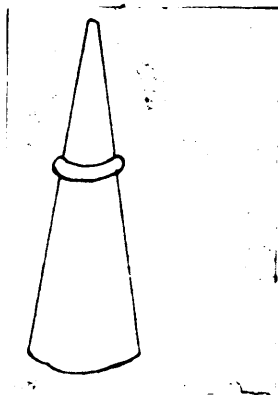
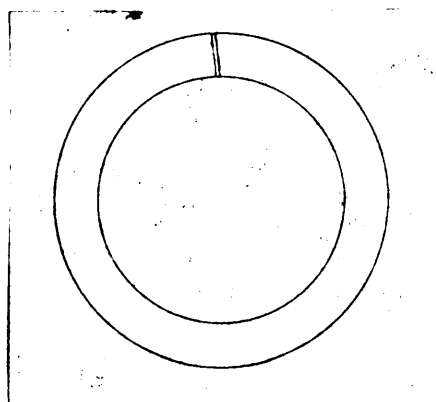

Figure 7.
Figure 8.
6. In turning the ring this may be done either on the horn of the anvil or the mandrel if one is available. (Figure 7.) The finished ring. (Figure 8).